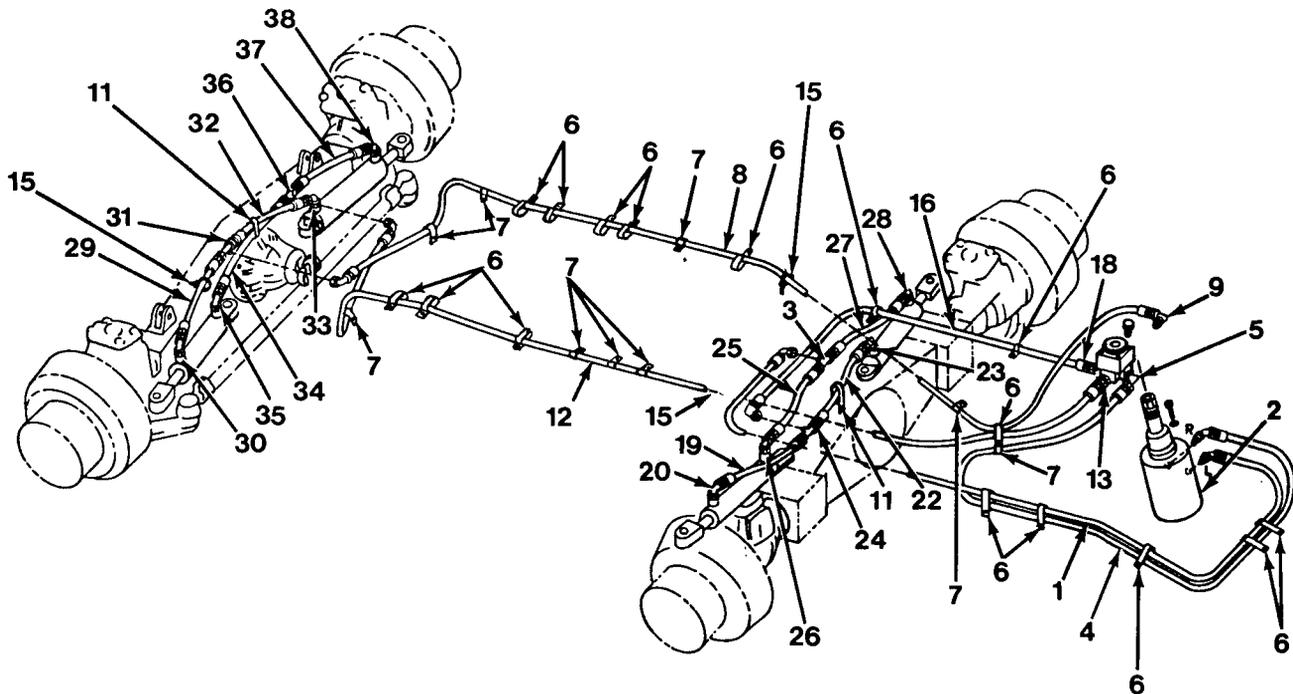

Figure 13-1
2. Remove hose (1) from steering valve (2) and tee (3, Figure 13-1).
3. Remove hose (4) from steering valve (2) and elbow (5).
4. Remove five clamps (6) and clamp (7).
5. Remove hose (8) from elbow (9) and tee (31).
6. Remove plastic ties (15) as required, six clamps (6) and four clamps (7).
7. Remove hose (12) from adapter (13) and tee (36).
8. Remove plastic tie (15), four clamps (7) and three clamps (6).